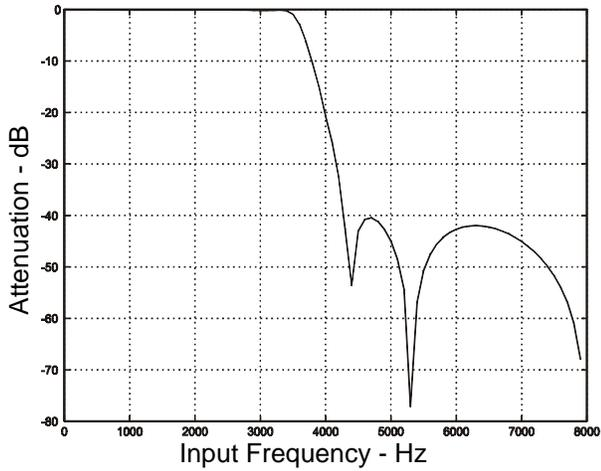
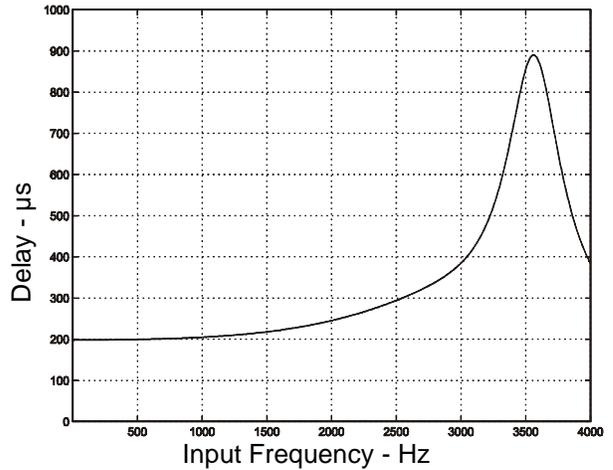

Figure 10. IIR Receive Filter Response
Figure 14. IIR Receive Group Delay
**Note:** Typical IIR filter characteristics for  $F_s = 8000$  Hz are shown in Figures 10, 11, 12, and 13. Figures 14 and 15 show group delay versus input frequency.
For Figures 10–13, all filter plots apply to a sample rate of  $F_s = 8$  kHz. The filters scale with the sample rate as follows: